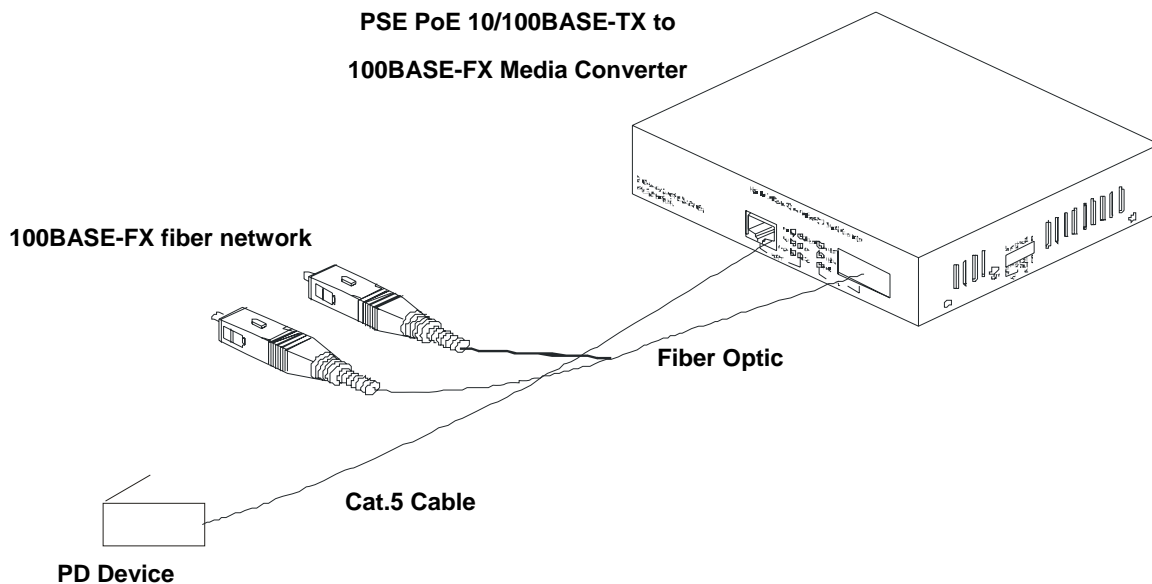

Figure 3-1 Connection among PSE PoE Converter and TP Cables
2. Install the TP media cable to the IEEE 802.3af PD device. (See Figure 3-1)